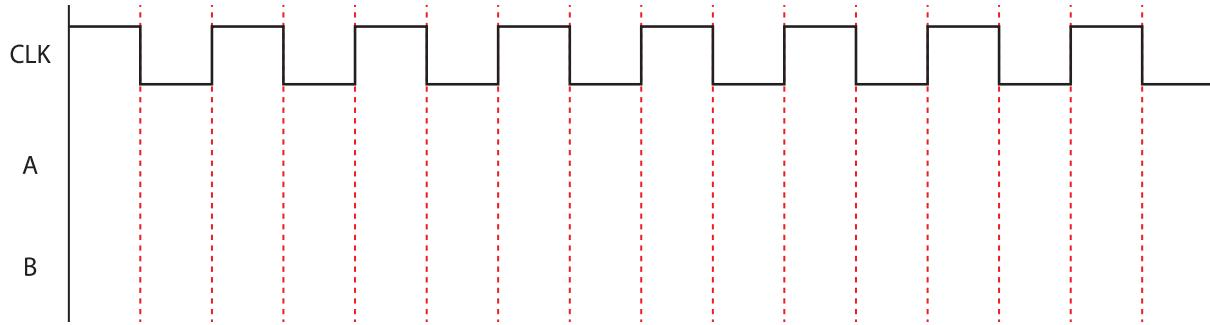

Figure 12.7
8. The “true” output of the counter remains on the  $\bar{Q}$  side of the flip-flops. View the outputs as before and sketch the waveforms on Figure 12.7.